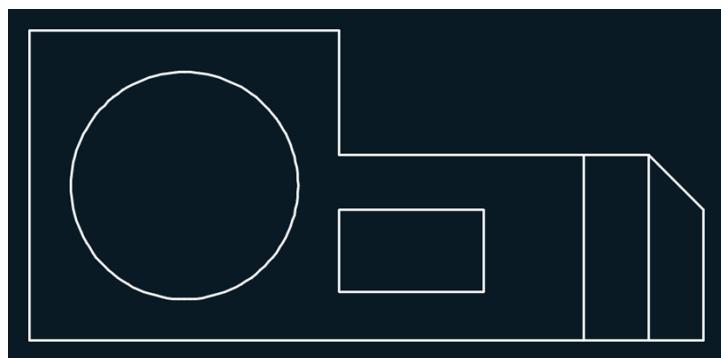

FIGURE 3.17 Completed mechanical part
8. Type **@1', -6** (or **@280, -160** for metric), and press Enter. The rectangle and drawing is complete (see Figure 3.17).